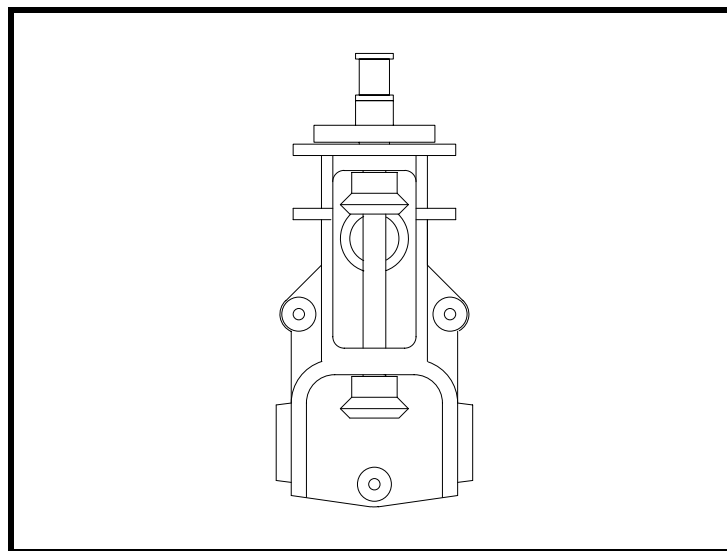

Figure 36
- ❑ Install P/N 821-2 spindle on P/N 520-6A shaft, drill and ream for the roll pin and install the roll pin as shown in Figure 36.